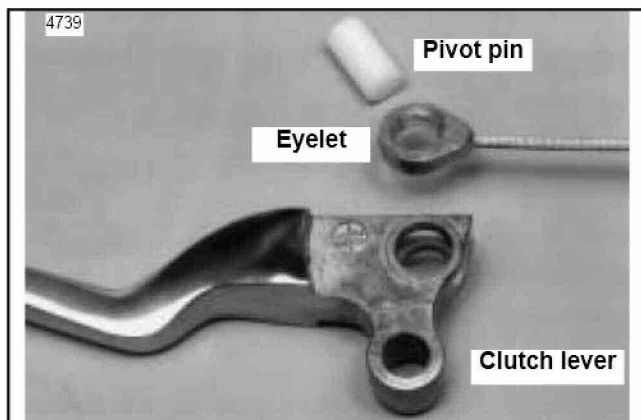

Figure 1. Cable Installation
3. See Figure 1. Install lever end of new clutch cable. Position cable eyelet in clutch lever slot. Retain with new cable pivot pin through original bushings.